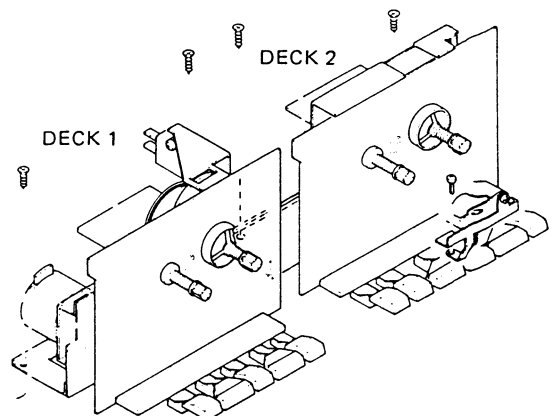

Fig. 3
- 1) Remove 2 screws. (See figure 3)
- 2) Remove 3 screws. (See figure 3)